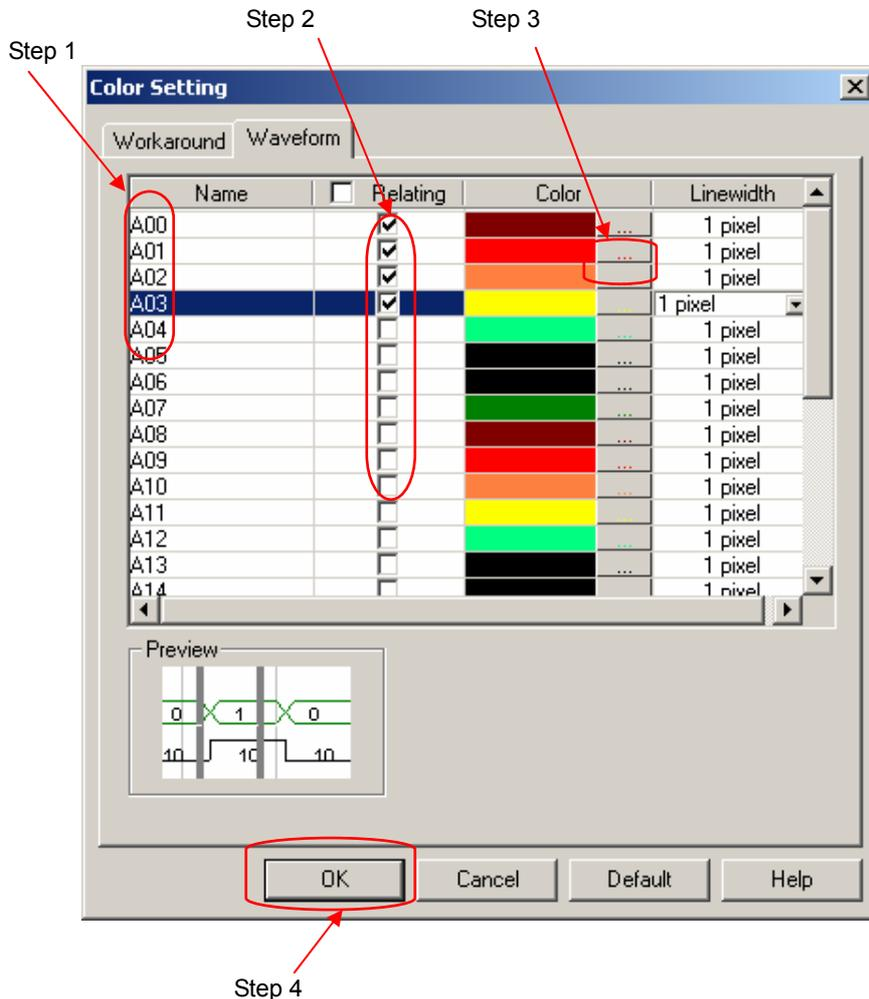

Fig 3-160: Stepwise illustration of changing waveform colors
Foreground color refers to the color of the output signal lines in the Waveform Display Area. *Fig3-160* presents how to change the color of a signal. Repeat the following procedures if users need to change colors of multiple items.
Step 3: Choose a color by following the method shown in Fig 3-160.